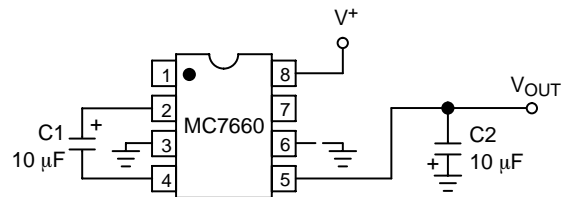
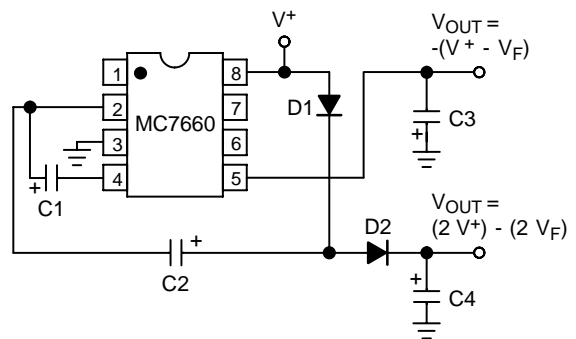
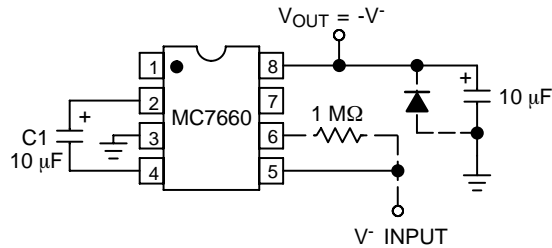
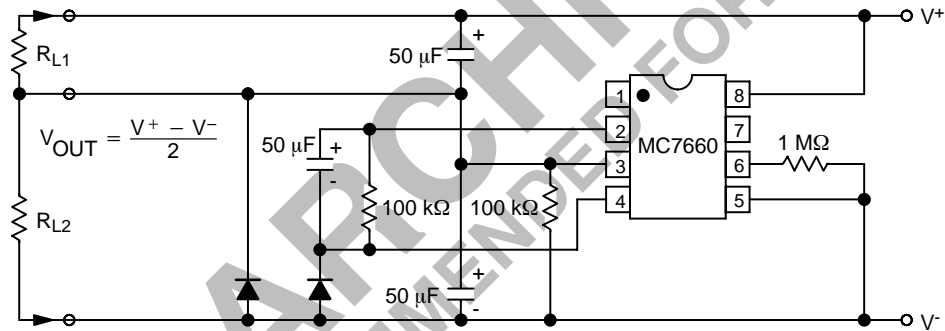

Figure 4. Simple Negative Converter
Figure 10. Combined Negative Converter and Positive Multiplier
Figure 11. Positive Voltage Conversion
Figure 12. Splitting a Supply in Half
Figure 4 shows typical connections to provide a negative supply where a positive supply is available. A similar scheme may be employed for supply voltages anywhere in the operating range of +1.5 V to +10 V, keeping in mind that pin 6 (LV) is tied to the supply negative (GND) only for supply voltages below 3.5 V.
The output characteristics of the circuit in Figure 4 are those of a nearly ideal voltage source in series with 70 Ω. Thus, for a load current of -10 mA and a supply voltage of +5.0 V, the output voltage would be -4.3 V.
Figure 10 combines the functions shown in Figures 4 and 9 to provide negative voltage conversion and positive voltage multiplication simultaneously. This approach would be, for example, suitable for generating +9.0 V and -5.0 V from an existing +5.0 V supply. In this instance, capacitors C_1 and C_3 perform the pump and reservoir functions, respectively, for the generation of the negative voltage, while capacitors C_2 and C_4 are pump and reservoir, respectively, for the multiplied positive voltage. There is a penalty in this configuration which combines both functions, however, in that the source impedances of the generated supplies will be somewhat higher due to the finite impedance of the common charge pump driver at pin 2 of the device.
Since the switches that allow the charge pumping operation are bidirectional, the charge transfer can be performed backwards as easily as forwards. Figure 11 shows a MC7660 transforming -5.0 V to +5.0 V (or +5.0 V to +10 V, etc.). The only problem here is that the internal clock and switch-drive section will not operate until some positive
voltage has been generated. An initial inefficient pump, as shown in Figure 10, could be used to start this circuit up, after which it will bypass the other (D_1 and D_2 in Figure 10 would never turn on), or else the diode and resistor shown dotted in Figure 11 can be used to “force” the internal regulator on.
The same bidirectional characteristics used in Figure 11 can also be used to split a higher supply in half, as shown in Figure 12. The combined load will be evenly shared between the two sides. Once again, a high value resistor to the LV pin ensures start-up. Because the switches share the load in